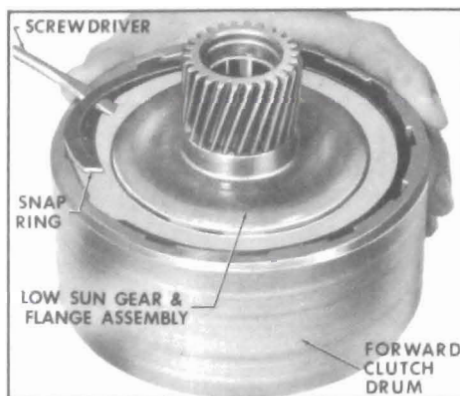

Figure 5-212
1. Remove low sun gear and flange assembly retaining snap ring. See Figure 5-212.